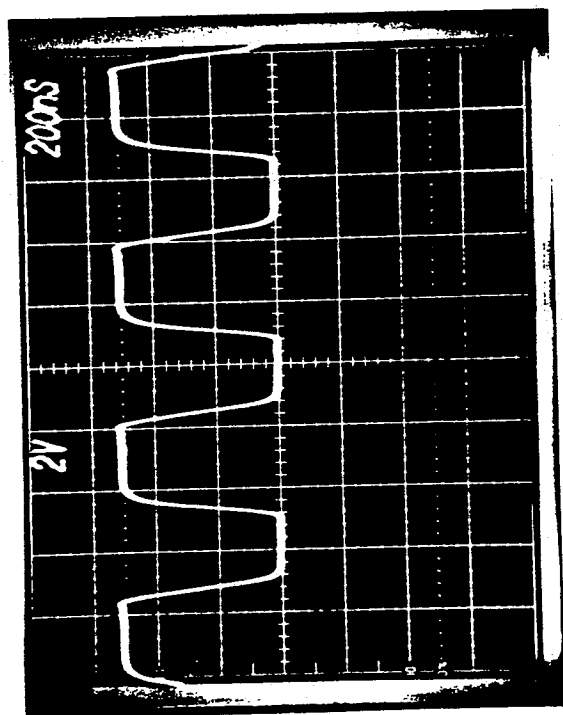

Figure 5-1
3. Check "1728000" on Models 3002 and 3003; it should look approximately as shown in Figure 5-1.